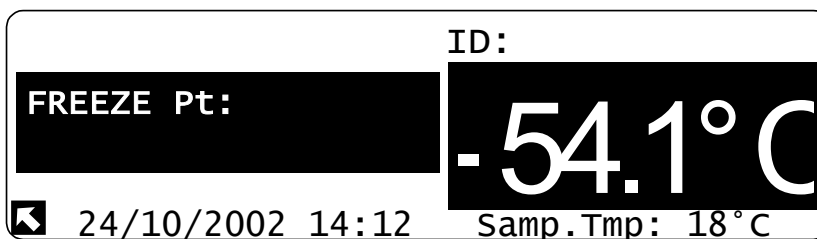

Figure 8: **End of test** display (in reheating phase)
**To achieve a greater reliability in the result, the FZP 5G2s continues for a moment to heat the sample at a low rate after finding the point at which the crystals disappear to satisfy itself that the point of disappearance of the crystals is indeed that found previously. This being so, the sample temperature display (Figure 7) "jumps" to the End of test display (Figure 8).**